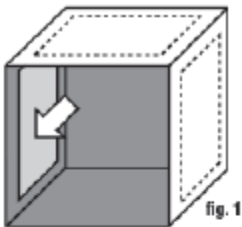

fig. 1
- Install the 3M™ Vibration Control Tape to the inside of the top and side walls of the housing (Figure 1).